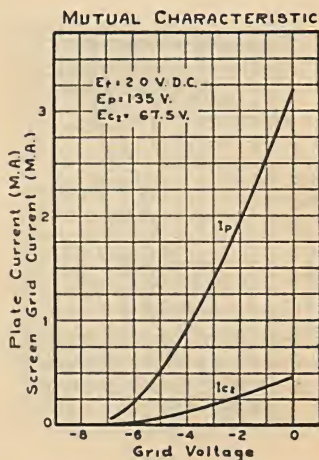

Fig. 13
**Inter-Electrode Characteristics**—Figs. 13, 14 and 15 show the relations existing between the plate, control grid and screen grid by means of the following curves:
Control Grid Voltage—Plate Current . . .	Fig. 13
Control Grid Voltage—Screen Grid Current .	Fig. 13